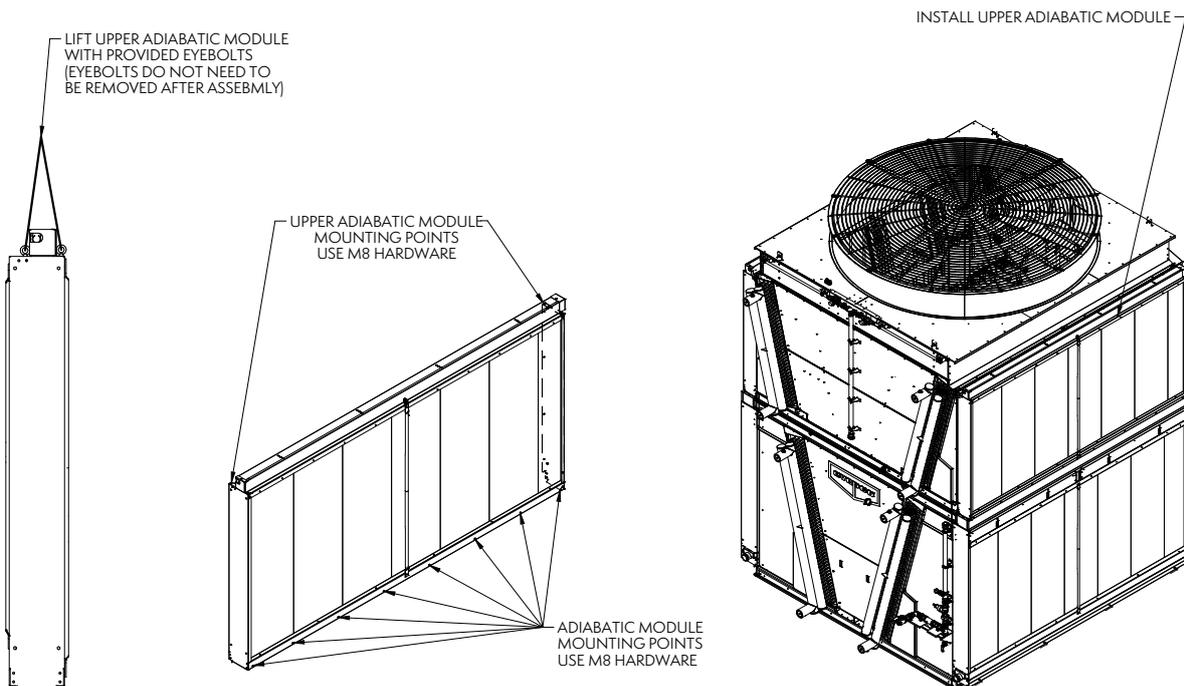

Figure 33 – Installing Upper Section Adiabatic Modules
- Install upper adiabatic pad modules as shown below in Figure 33. Fasten each individual module, starting on the connection end, in the locations shown before moving to the next module.